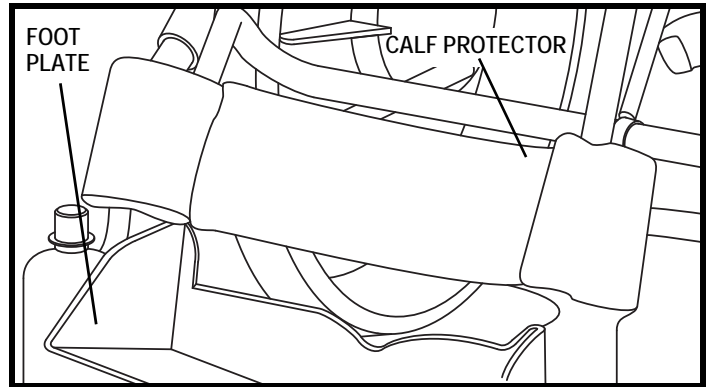

Figure 23. Kids UP Series Calf Protector
7. Install the calf protector. **See figures 23 and 24.**
10. Install the calf protector. **See figures 23 and 24.**